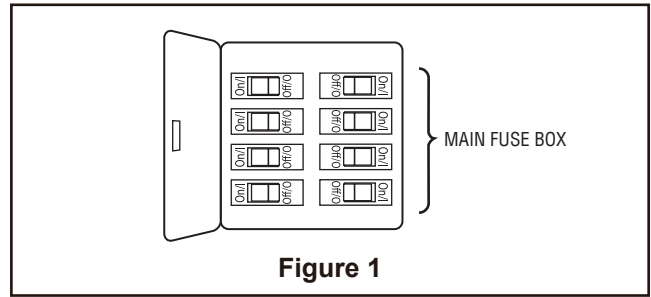

Figure 1
1. Restore electrical power to the outlet box by turning the electricity on at the main fuse box (Figure 1).